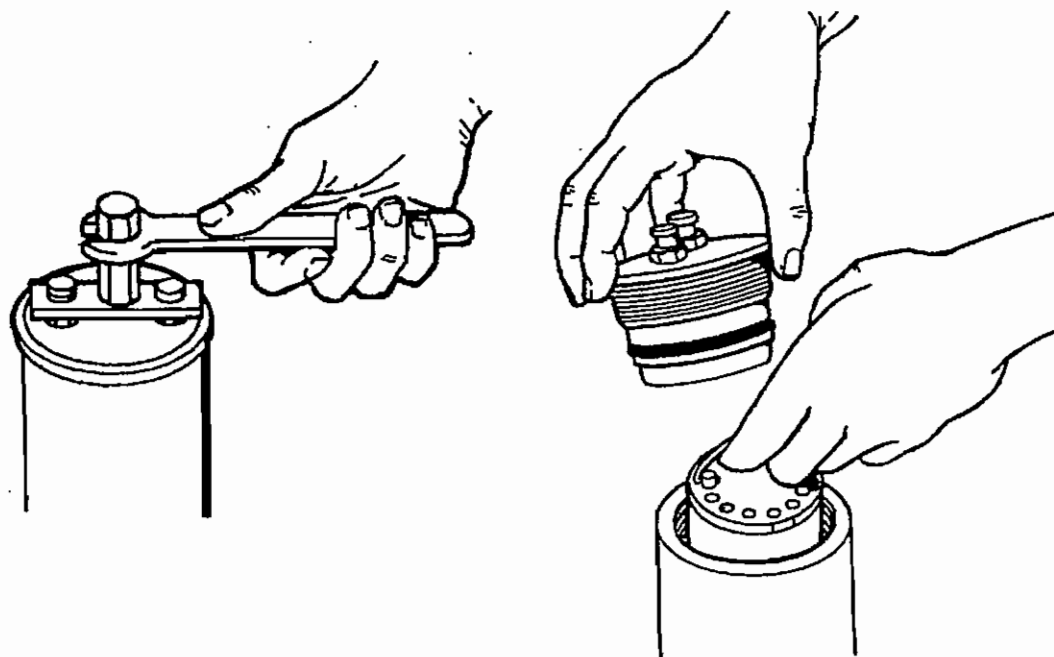

Fig. 7.12 Element change
- Unscrew the filter head using the special wrench supplied. See fig. 7.12.